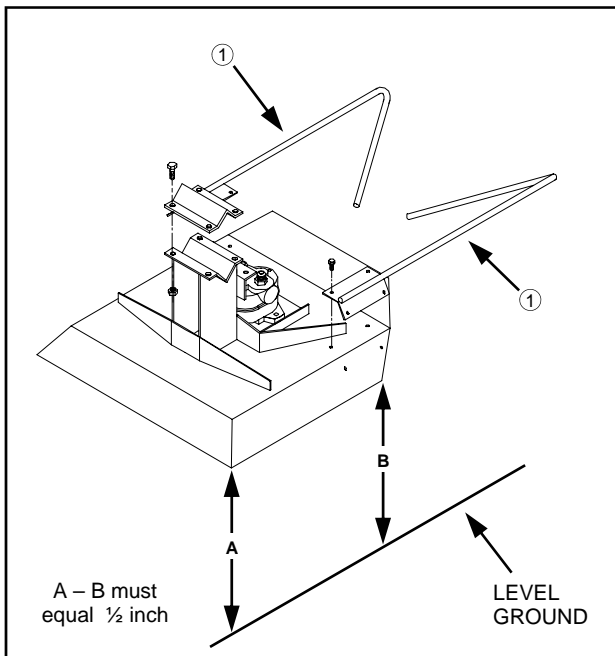

FIG 3.20
2. Install the stalk guides to the cutter head assembly (fig. 3.20, item 1).
4. Adjust the cutter heads using the adjusting bolts so the front of the cutter head is pointing downward approximately 1/2 inch (fig. 3.20).